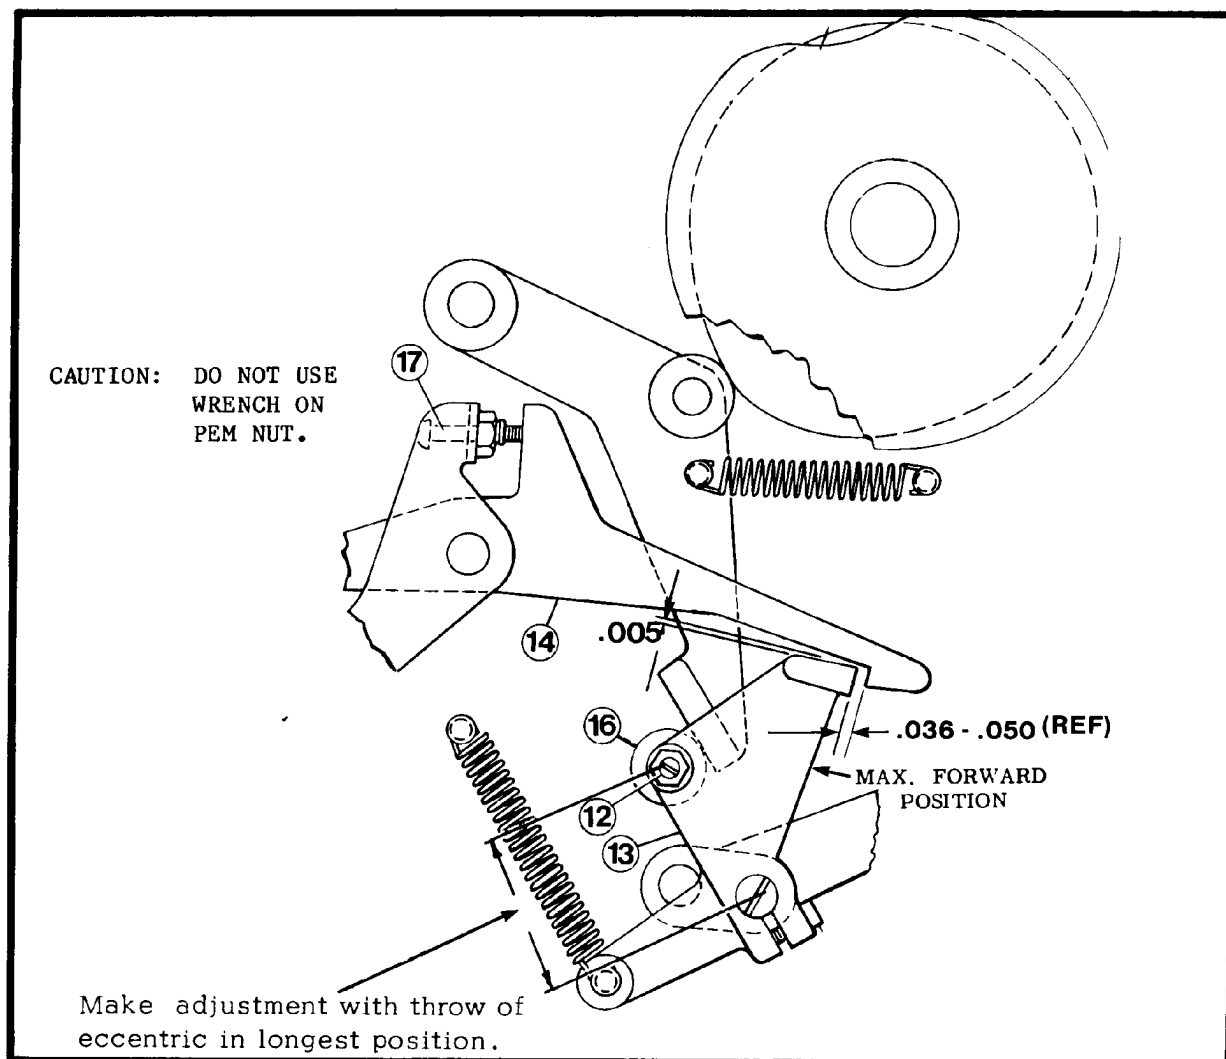

Figure 27 - Impression Cylinder and Latch Lever
The throw of the eccentric (16) must be placed in the longest position from the center of the actuating lever (13) as shown (see Figure 27).
20. Lift feeler pins above paper chute and turn handwheel until the impression cylinder lever (13) is again at its maximum forward position. Adjust screw (17) for .005" clearance between the top of the lever (13) and the latch lever (14).
21. Release feeler pins, turn handwheel and check that the latch lever (14) releases properly.